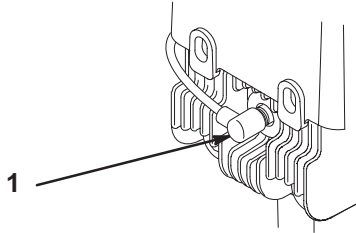

Figure 7
1. Ensure that the wire is connected to the spark plug (Fig. 7).